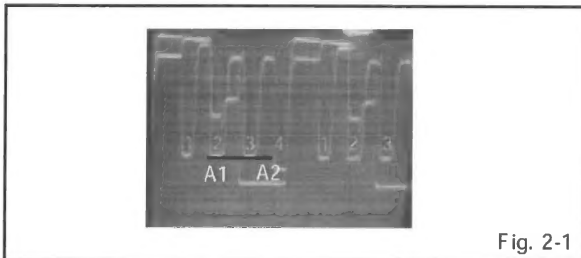

Fig. 2-1
5. Press the VOL. UP/DOWN button on the remote control until the section A1 and A2 becomes as straight line. (Refer to Fig. 2-1)